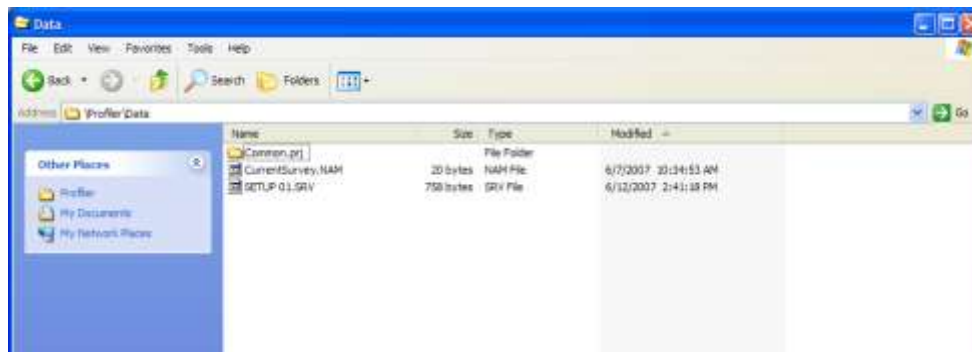

Figure 84: Profiler data directory.
6. The user should now select the **Data** folder (Figure 84). This example folder contains the following files/folders: Common.prj (the default Project folder) and Setup01.SRV. This file and project folders should be moved or deleted by the operator. GSSI assumes no responsibility for the proper operation of the EMP-400 if any of these files have been accessed, moved or deleted.